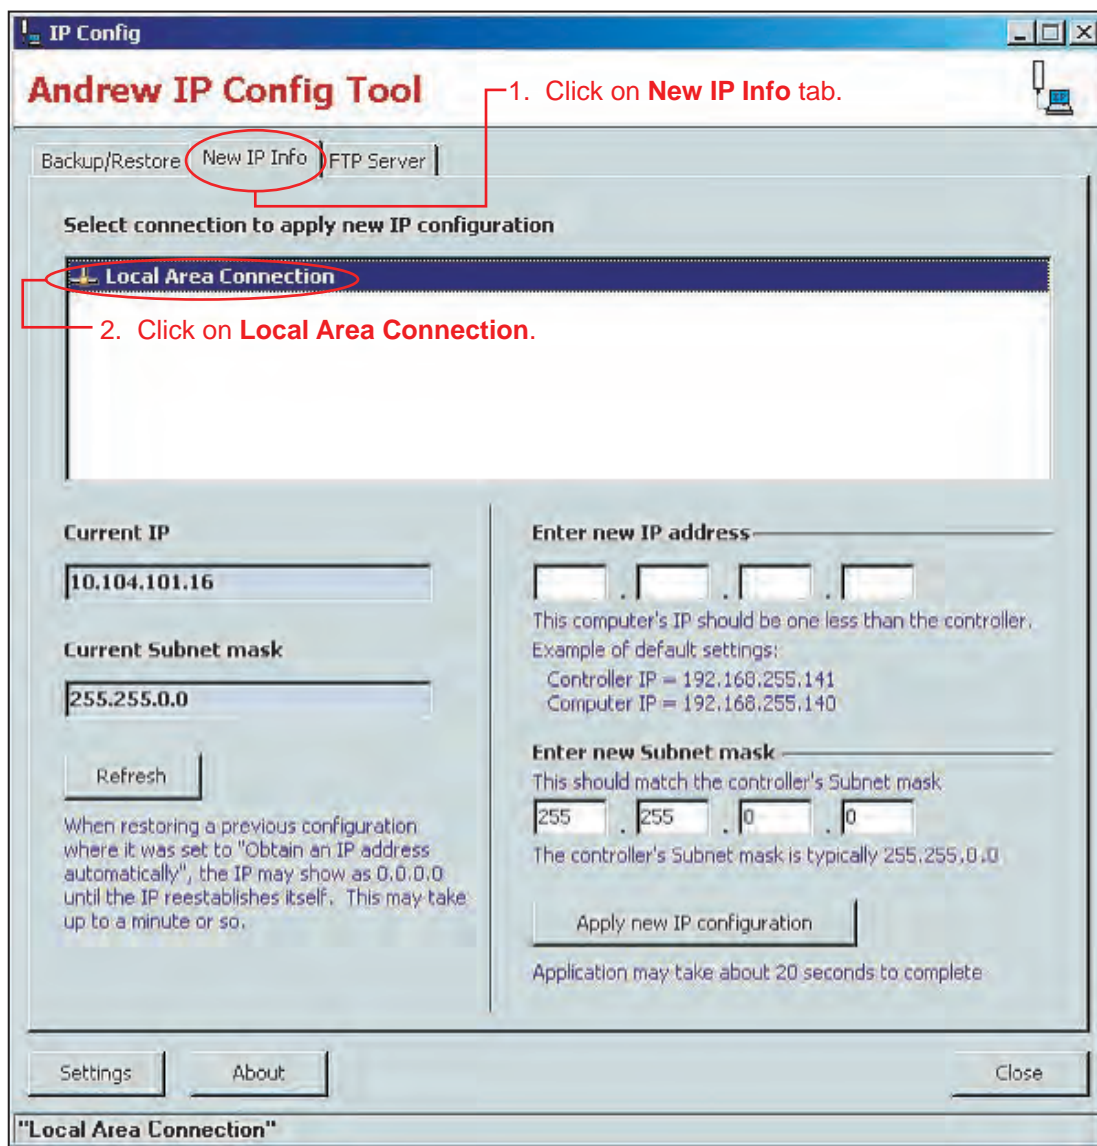

Figure 9-1. Selecting Local Area Connection.
3. Click on the **New IP Info** tab, and click on **Local Area Connection** (Figure 9-1).